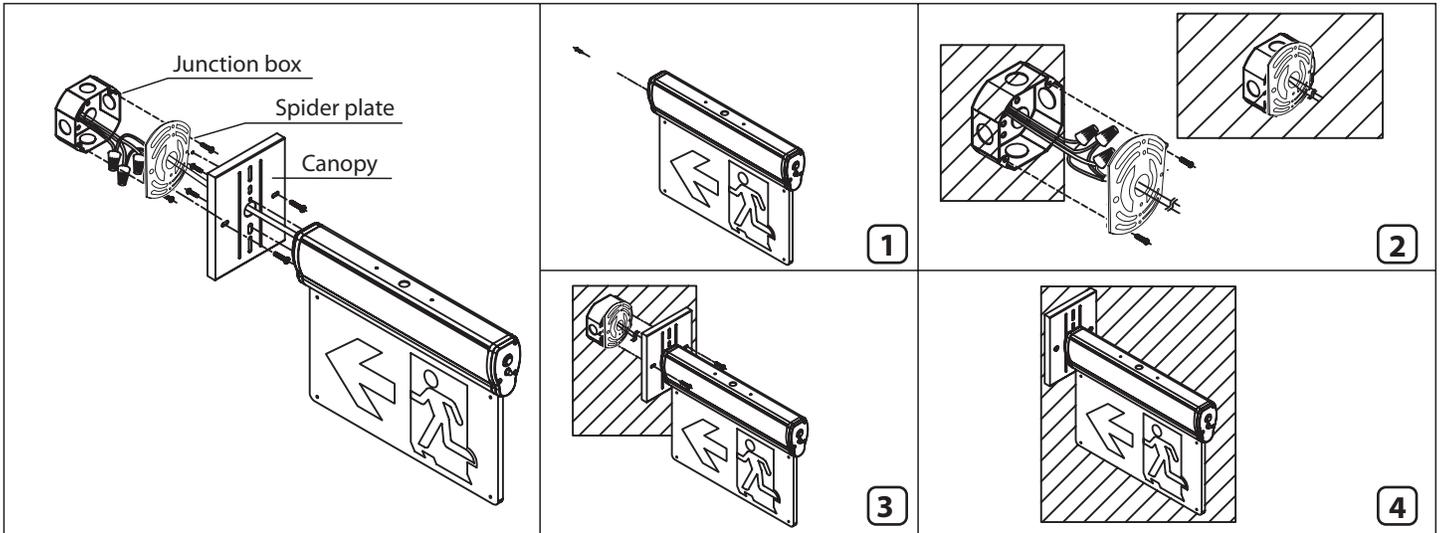

Fig. 2
2. Use keyhole slots for secure mounting, ensuring wires have 8 inches of slack. (Fig. 2)